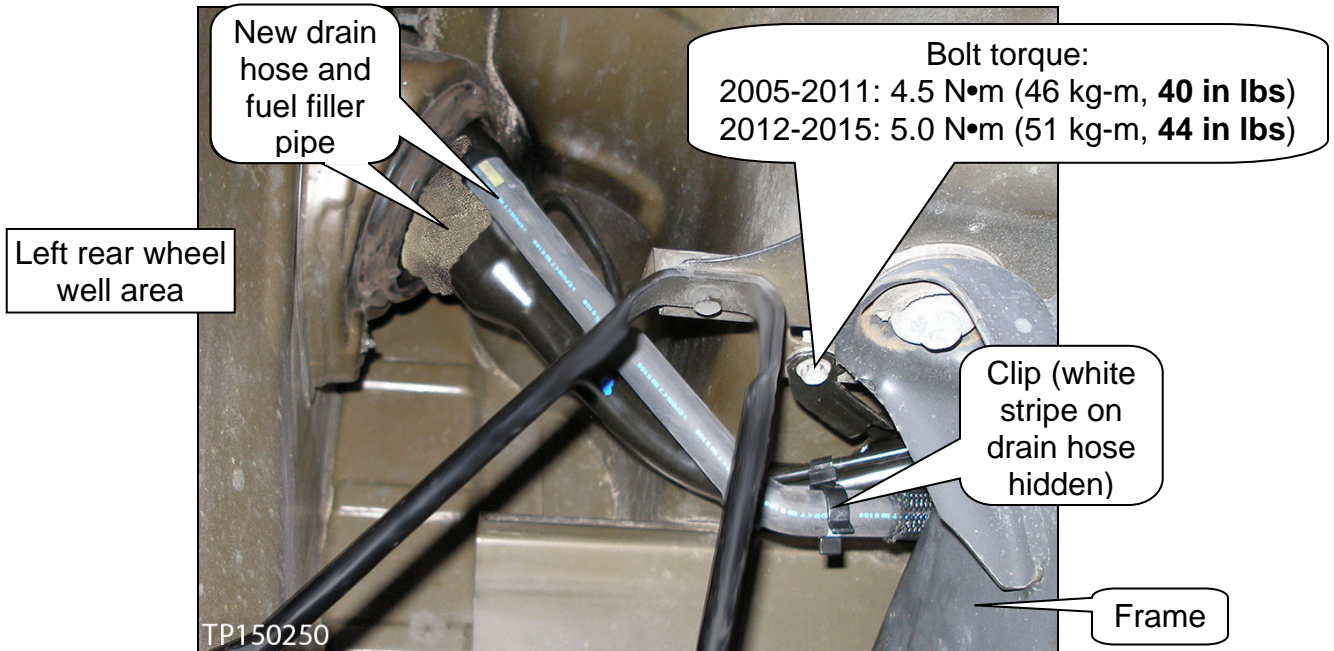

Figure 10: King Cab and long wheel base Crew Cab
- Connect and route the new drain hose to the fuel filler pipe (see Figure 10 and 11, as it applies).